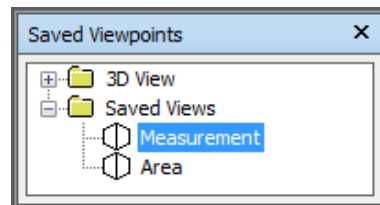
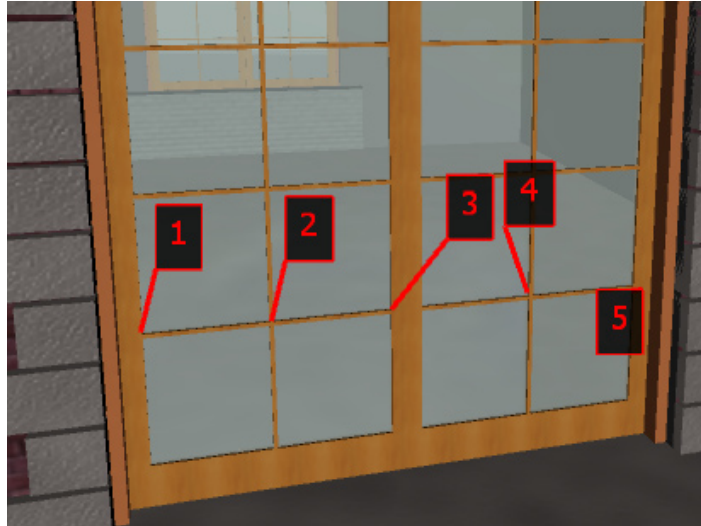

Figure 3-38 Expanded view of the Saved Views folder
Figure 3-39 The Measurement view in the Scene View
2. In the **Saved Viewpoints** window, click on the + icon corresponding to the **Saved Views** viewpoint folder; the folder is expanded, as shown in Figure 3-38.
3. Select the **Measurement** option from the **Saved Views** folder, refer to Figure 3-38; the view is displayed in the Scene View, as shown in Figure 3-39. Close the **Saved Viewpoints** window.
2. In the **Saved Viewpoints** window, click on the **+** icon corresponding to **Saved Views** viewpoint folder; the folder expands, refer to Figure 3-38.